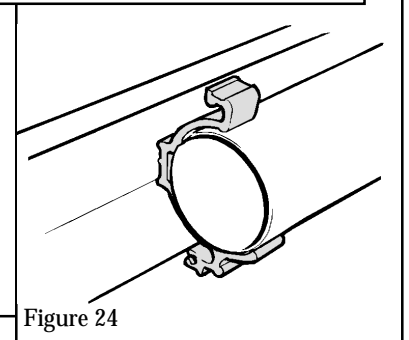

Figure 24
8.8 Place the flue ducts in position. Fit the bridging tube over one of the ducts. Locate the ducts to the “Z” coupling, flue box and, if applicable, elbows. The flue ducts snap into the plastic support brackets (see figure 24).